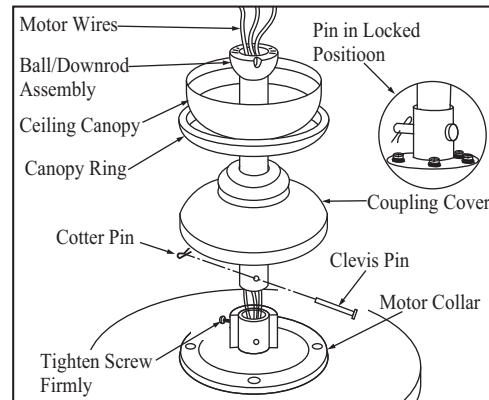

Figure 7
3. Route wires exiting from the top of the fan 6. motor through the coupling cover and canopy ring. Make sure the slot openings are on top. Route the wires through the canopy and then through the ball/downrod assembly (Figure 7).
5. Align the holes at the bottom of the downrod with the holes in the coupling on top of the motor housing (Figure 7). Carefully insert the clevis pin through the holes in the collar and downrod. Be careful not to jam the clevis pin against the wiring inside the downrod. Insert the cotter pin through the hole near the end of the clevis pin until it snaps into its locked position, as noted in the circle inset of Fig. 7.
6. Tighten two set screws on top of the fan motor firmly. (Figure 7)